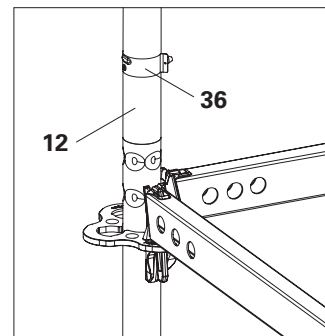

Fig. B4.01a
5. If relocation by crane is envisaged, connect all verticals with locking pins D48/D57 (**36**) so that they are tension-proof. (Fig. B4.01a)